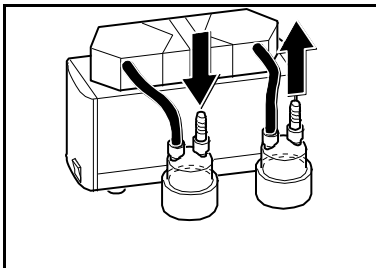

Fig. 14: Tubing system SR
2	Tubes (see fig. 14) <ul style="list-style-type: none"> <li>▪ Resistant to the medium employed</li> <li>▪ Inside diameter 10 mm</li> <li>▪ Length: approx. 150 mm</li> </ul>
3. Lay tubes for separators (see fig. 14).